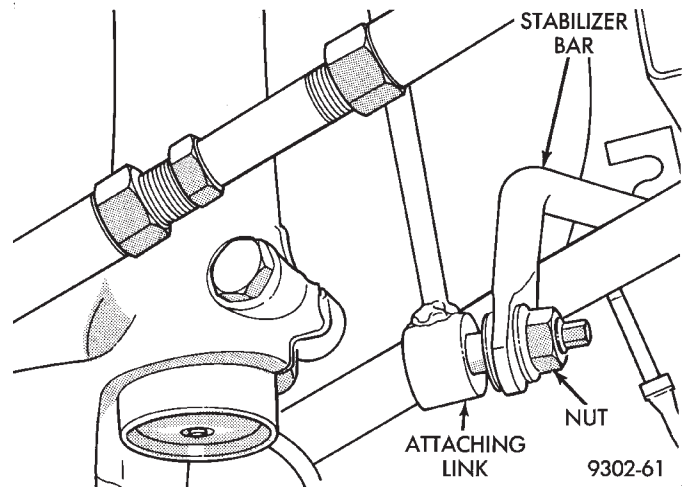

Fig. 5 Attachment Link To Stabilizer Bar Attaching
(7) Remove the rear strut assembly to stabilizer bar attaching link, at the stabilizer bar (Fig. 5). Hold hex on attaching link stud while breaking nut loose. This will keep bushing in attaching link from slipping. The attaching link does not have to be removed from strut assembly.